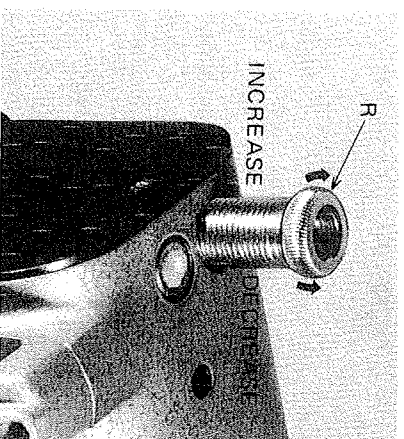

Fig. 10
The pressure of the presser foot should be adjusted according to the type of material to be sewn. The heavier the material, the heavier the pressure; the lighter the material the lighter the pressure. The pressure of the presser foot on the material is regulated by the Regulator Screw (R) (Fig. 10) on the top of the machine. Turn this regulator to the left to decrease it. Do not employ more foot pressure than is require to feed the material properly.